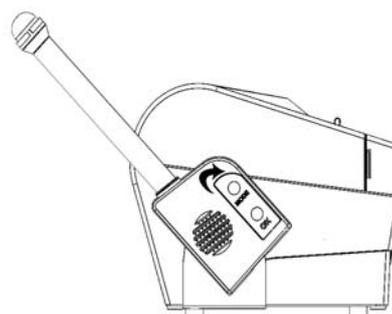

FIGURE 2
Step 2: Rotate the Main Unit clockwise as shown in figures 2 and 3 if the printer is to be used on a horizontal surface. If the printer is mounted on a vertical surface by means of the Wall Mount System then the Main Unit should be rotated anti-clockwise.